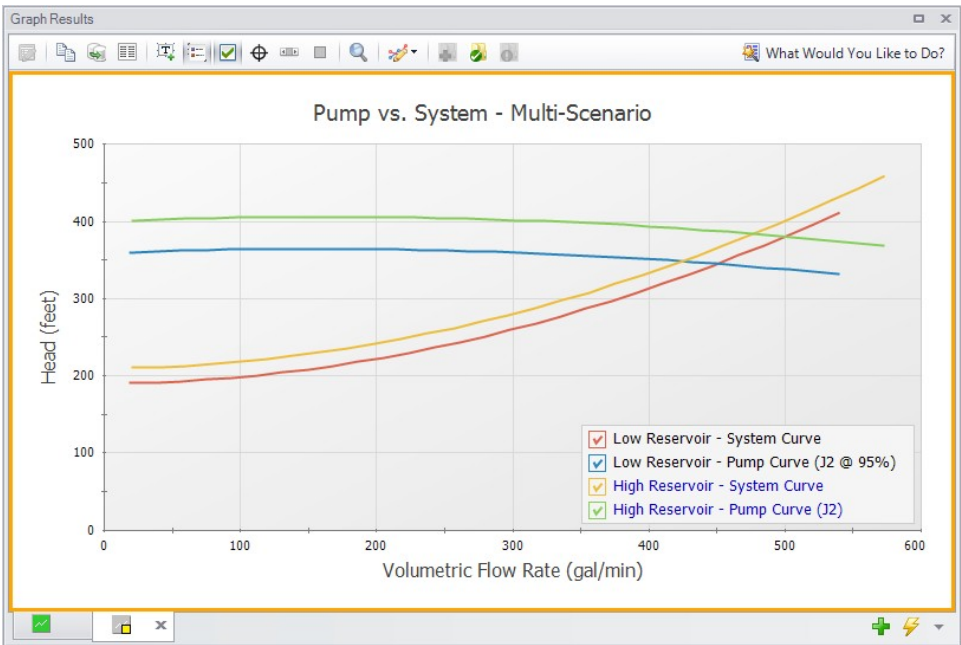

Figure 9: Multi-Scenario Pump vs. System curve
6. The selected curves will now be displayed on a single graph, as is shown in Figure 9.